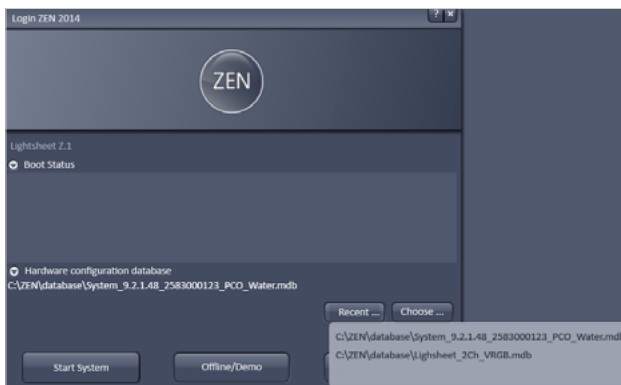

Figure 1 Start-up window, choosing database for water immersion
7. Open the **Boot Status** and **Hardware configuration database** option in the start-up window, Fig.1.